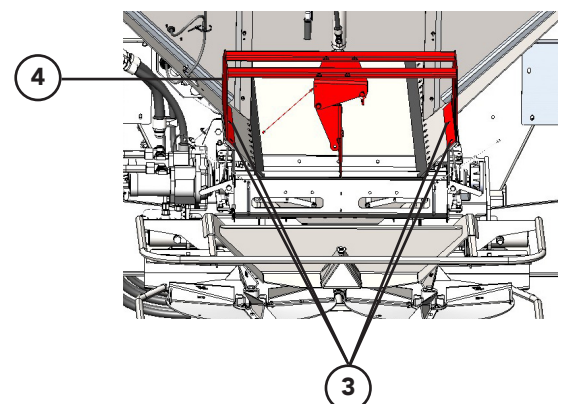

Figure 2 - Hillside Divider
2. Figure 2 - Remove Hardware (3) and Hillside Divider (4).